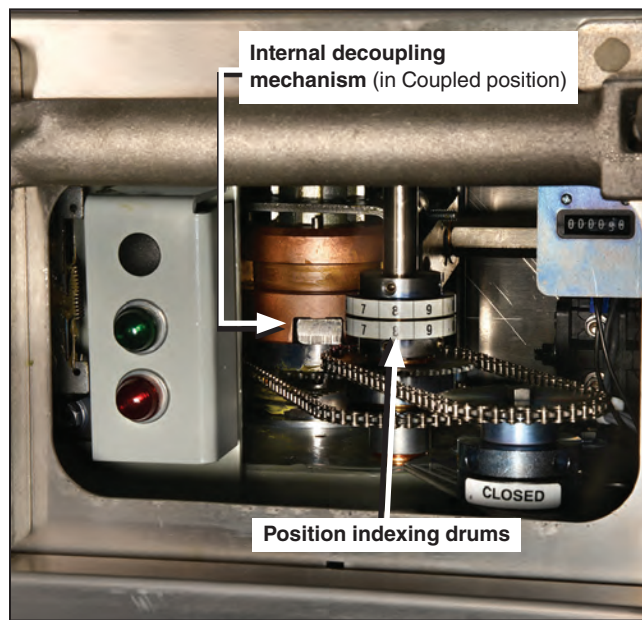

Figure 61. Verify the switch is Coupled.
- STEP 4.** Lower the handle to engage the locking tab. Verify the switch is **Coupled**. See Figure 61.